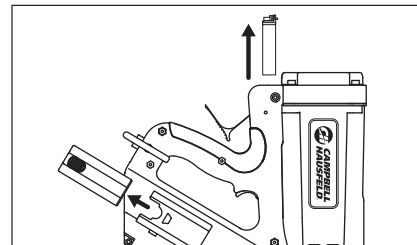

Figure 26
1. Remove the fuel cell and battery from the tool (see Figure 26).